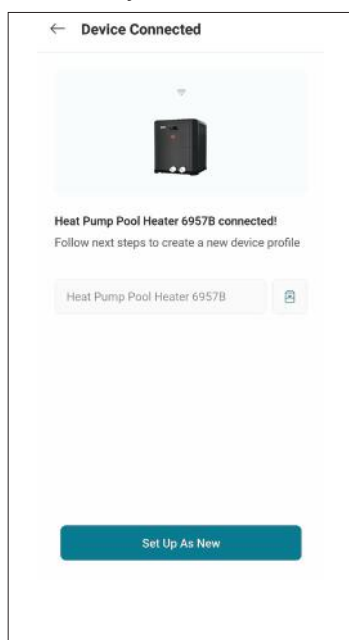

Figure 104. Name Your Unit
10. Your device is now connected to Wi-Fi. You can change the name of your device here. See Figure 104.